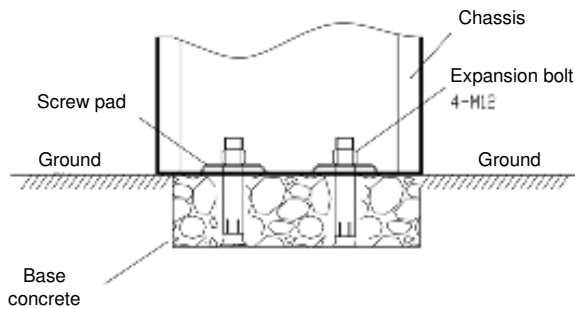

Figure 2-3
- 3) Install screw pads and use a wrench to tighten nuts, as shown in Figure 2-3.